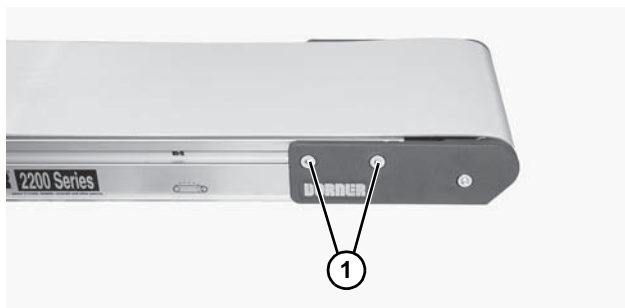

Figure 55
1. On one side of the conveyor, loosen two (2) head plate fastening screws (**Figure 55, item 1**) and remove them.